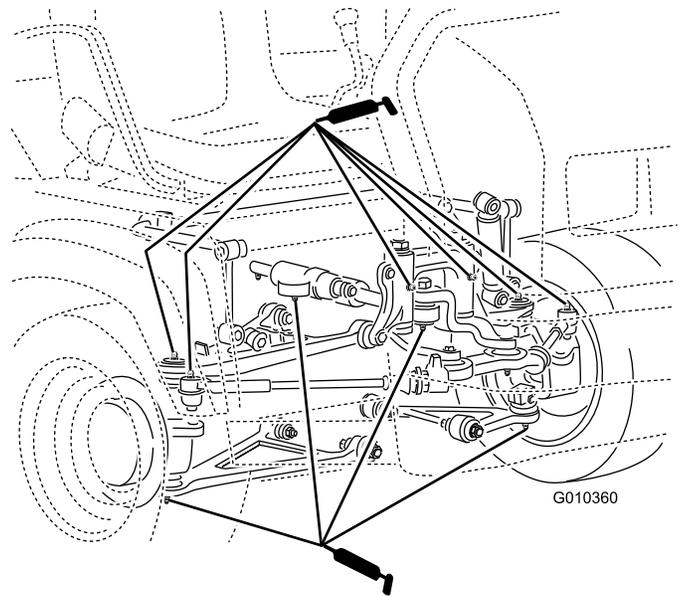

Figure 34
- Ball joints (4), tie rods (2), pivot mounts (2) and steering cylinder (2) (Figure 34)